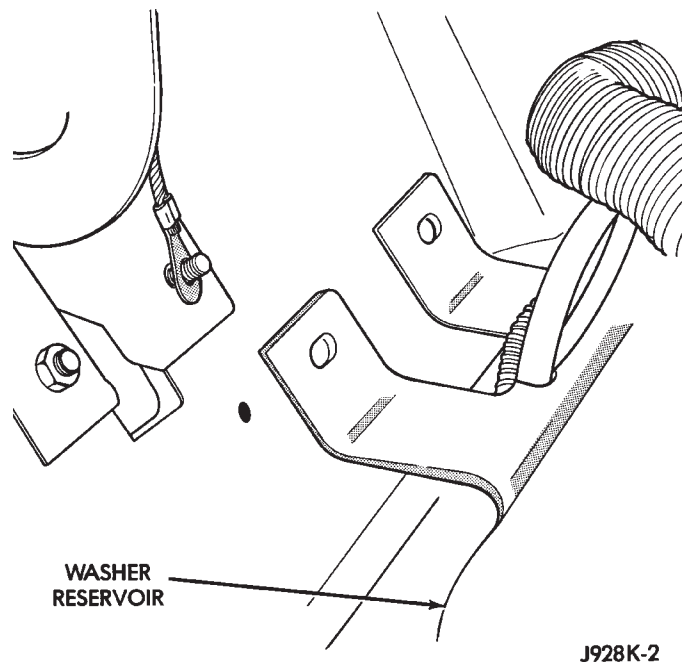
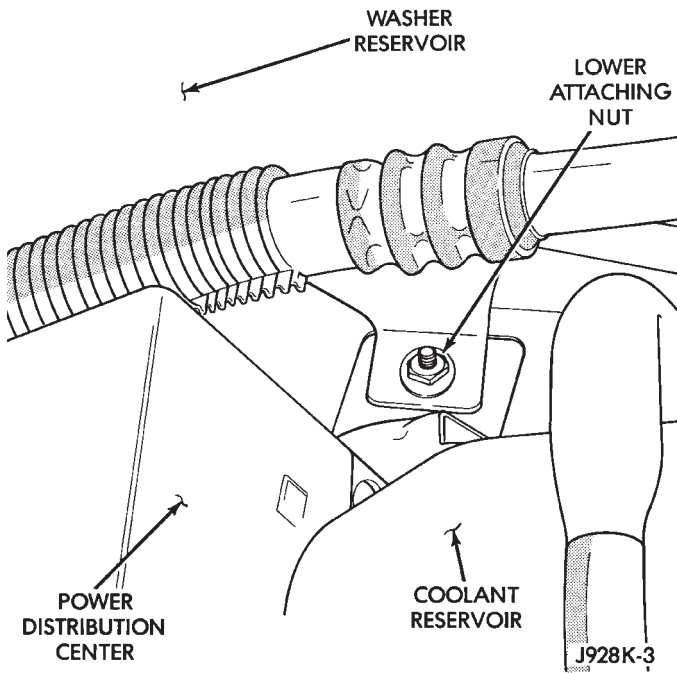

Fig. 4 Washer Reservoir Upper Attaching Screws
Fig. 5 Washer Reservoir Lower Attaching Nut
(1) Remove 2 washer reservoir attaching screws (Fig. 4) and 1 nut (Fig. 5).